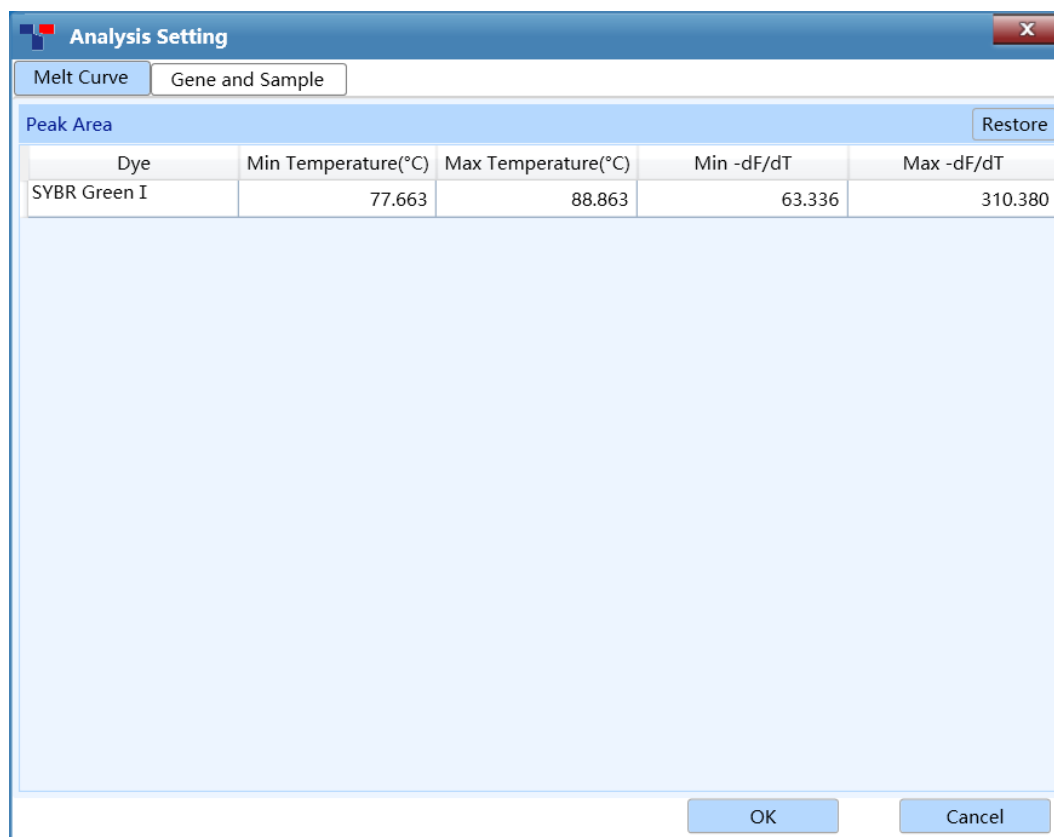

Figure D-13.3 Melting Curve Analysis Setting interface - Melt Curve tab
I. **Melt Curve** tab: display the parameter range of each peak area, as shown in figure D-13.3.
- **Dye**: display the settings of **Dye** and its marked **Gene** of the current experiment, as shown in figure D-13.3.